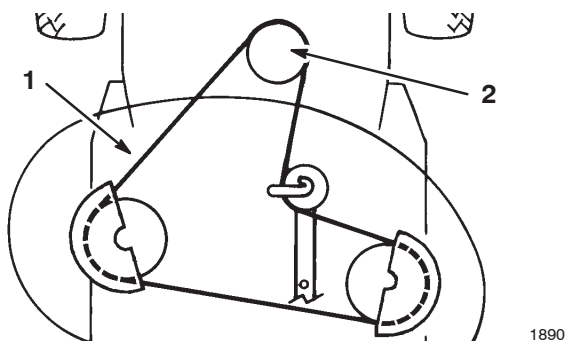

Figure 41
14. Remove the mower belt from the electric clutch pulley (Fig. 41).
15. Remove the mower belt from the lower engine pulley (Fig. 41).
3. Install the mower belt onto the lower engine pulley (Fig. 41).